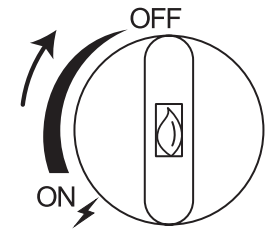

Fig. 5
1. Turn the Ignition Knob to 'OFF' to shut off fuel supply (Fig. 5). Wait until the flame is fully extinguished before performing the next step.